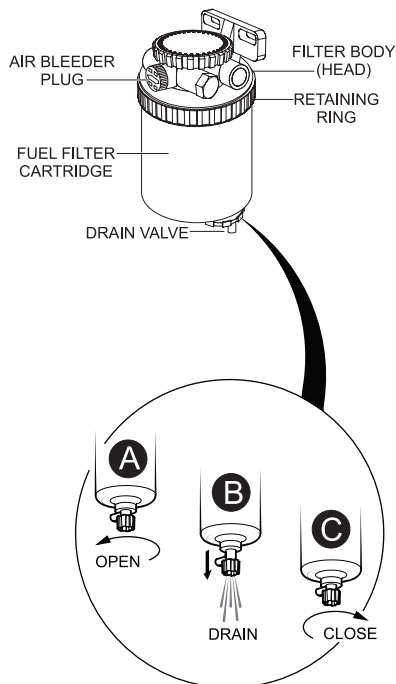

Figure 57. Draining Fuel Filter
Inspect the fuel filter **daily**. If the fuel filter (Figure 57) has collected a significant amount of water and sediment at the bottom of the cup, it should be drained off immediately.
1. Loosen the air bleeder plug (Figure 57) on the fuel filter body.
2. To discharge the fuel inside the fuel filter, **OPEN** the drain valve on the fuel filter by turning the knob **counterclockwise (A)** approximately 3-1/2 turns until the valve drops down 1 inch (25.4 mm) and draining occurs (B).